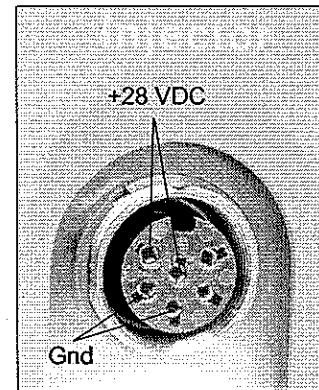

Figure 4-4a: Power Supply
2. Using the digital voltmeter, measure the voltage on both pins as shown in Figure 4-4a using one of the Gnd pins then repeat using the other Gnd pin. The measured voltage should be between 24-32 VDC.